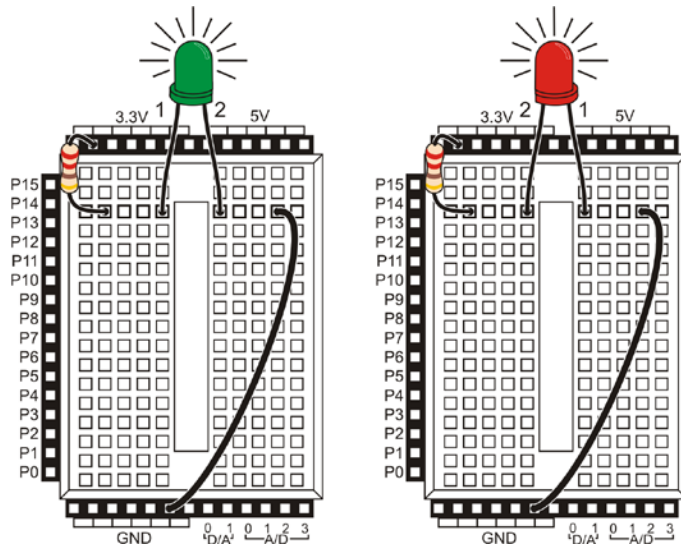

Figure 2-18
Figure 2-18 shows the manual test for the bicolor LED.
- Build the circuit shown on the left side of Figure 2-18.
- Modify your circuit by turning the LED around so that its leads swap position, as shown in the right side of Figure 2-18.